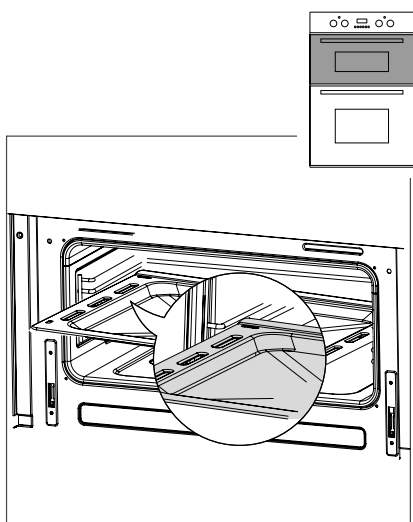
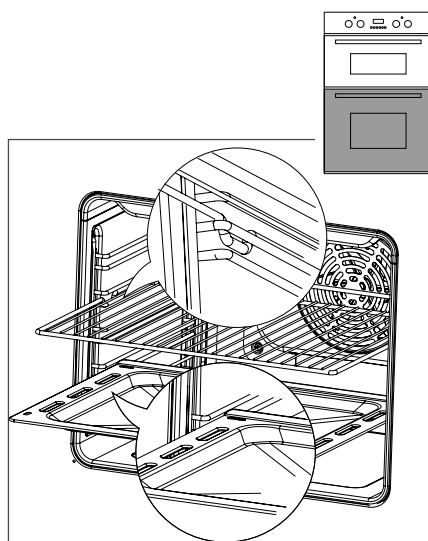

Fig. 5
Fig. 7
- Remove all shelves from either the Upper Oven (refer to Figure 5) or the Lower Oven (refer to Figure 7).